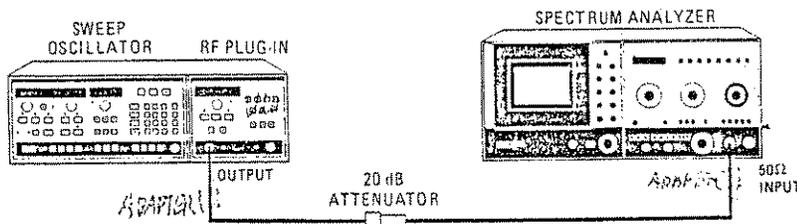

Figure 4--7. Residual FM Test Setup
1. Connect equipment as shown in Figure 4--7, but do not connect the RF OUTPUT at this point.